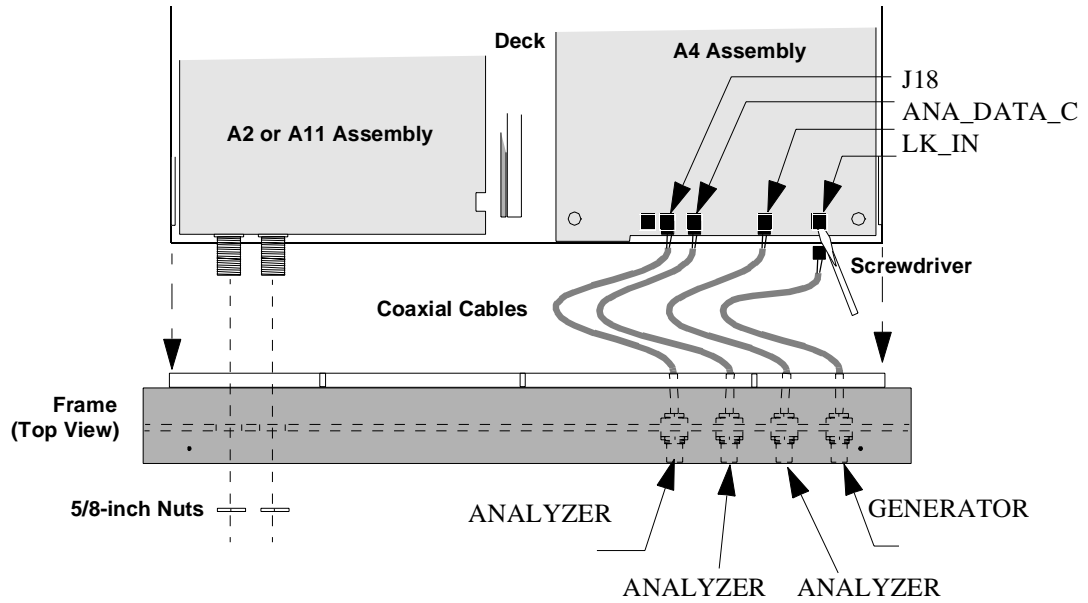

Figure 23 Disconnecting the Coaxial Cables from the A4 Assembly
4. Pull the frame away from the deck and disconnect the coaxial cables from the A4 assembly, see figure 23 . If necessary use a small flat-blade screwdriver to disconnect the connectors.
This completes the procedure for removing the front panel. When reassembling the front panel frame, use Table 6 below and figure 23 above to reconnect the cables of the front panel to the A4 assembly.